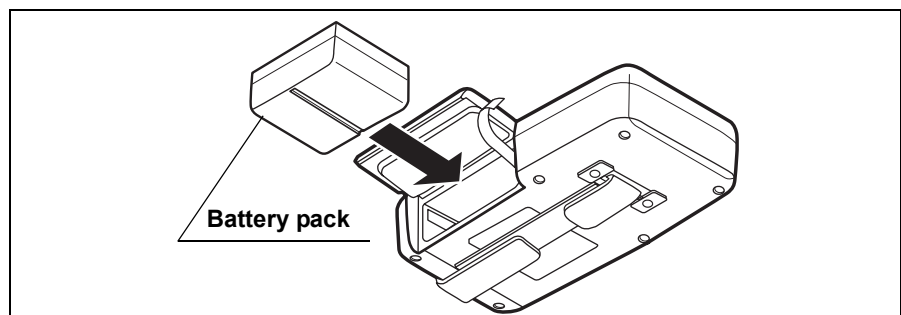

Figure 5.24
2. With the battery pack removal ribbon hanging out of the battery pack slot, insert a fully charged battery pack into the slot (see Figure 5.24 (b)).